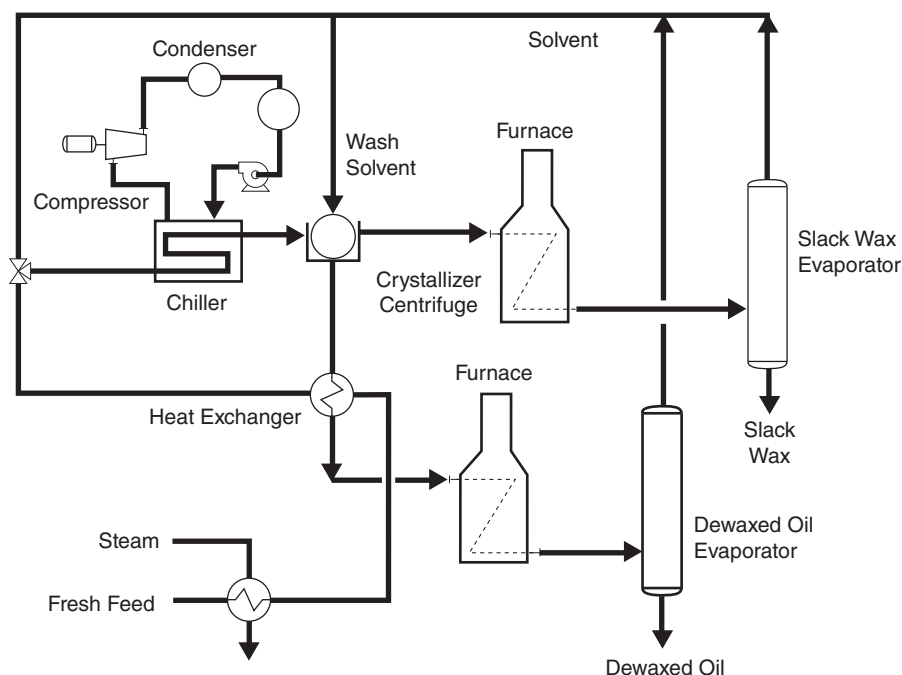

Figure 16.13
3. The solvents are recovered and recycled. Figure 16.13 shows a typical solvent developing process.